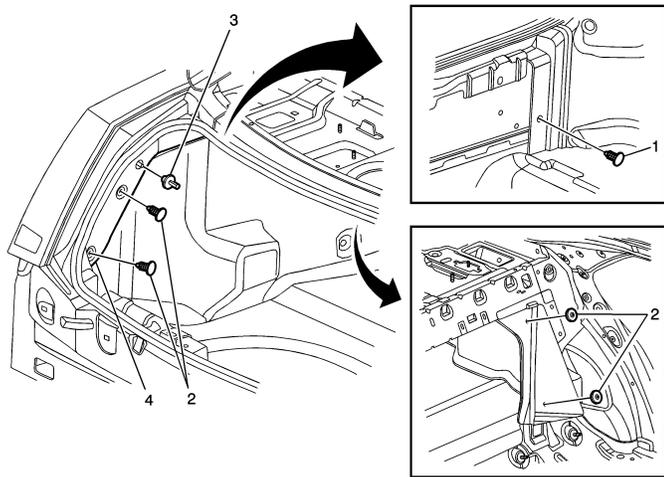

Fig. 3 Rear compartment side trim panel removal. Coupe
7. Remove rear compartment side trim panel, **Figs. 3 and 4**.
8. Install rear compartment side trim panel, **Figs. 3 and 4**.